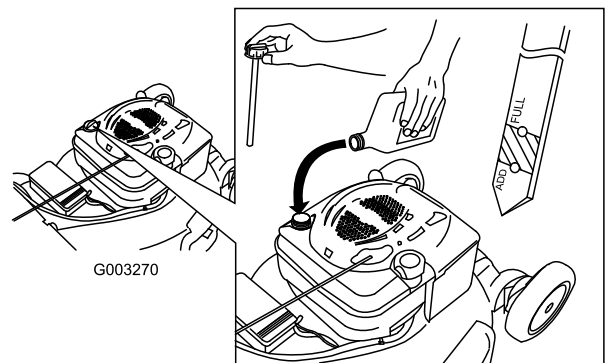

Figure 38
4. **Slowly** pour oil into the oil fill tube until the oil level reaches the Full line on the dipstick (Figure 38). **Do not overfill.** (Max. fill: 20 oz. (0.59 l), type: SAE 30 detergent oil with an API service classification of SF, SG, SH, SJ, SL, or higher.)